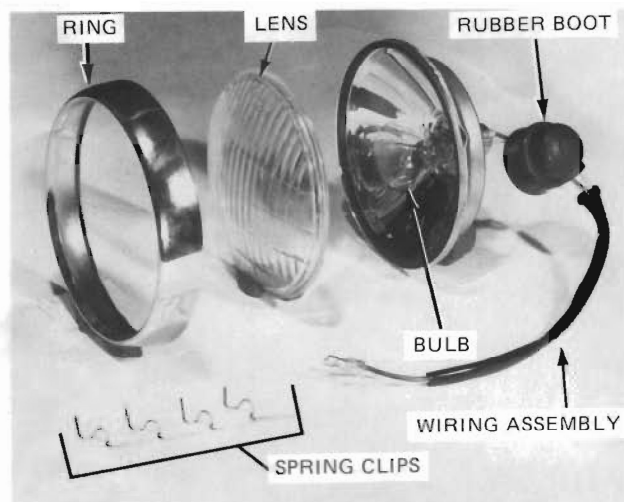

Figure 51 — Headlamp Assembly — Disassembled
7. Remove ring from assembly taking care not to drop the glass lens, Figure 51.